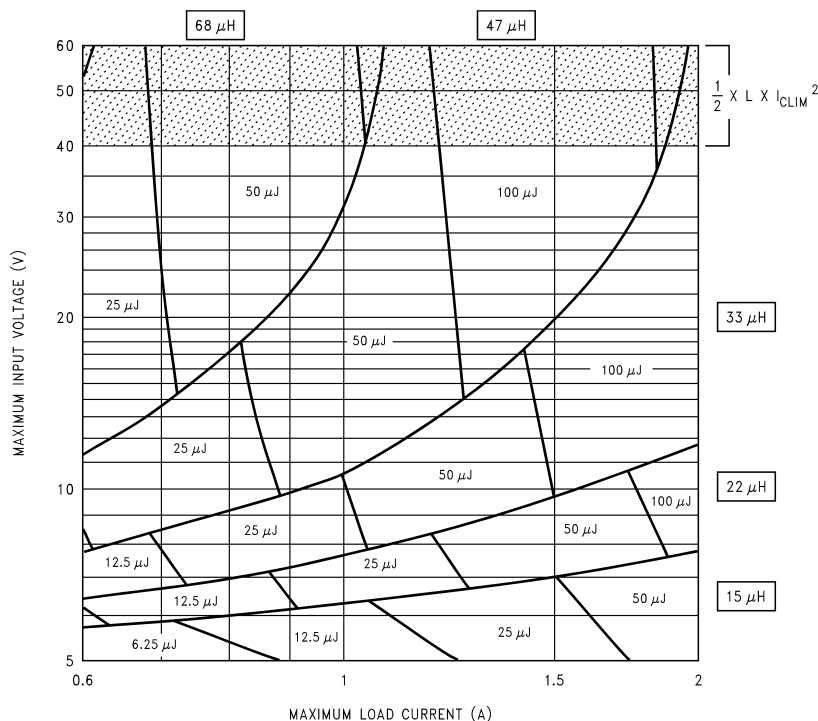
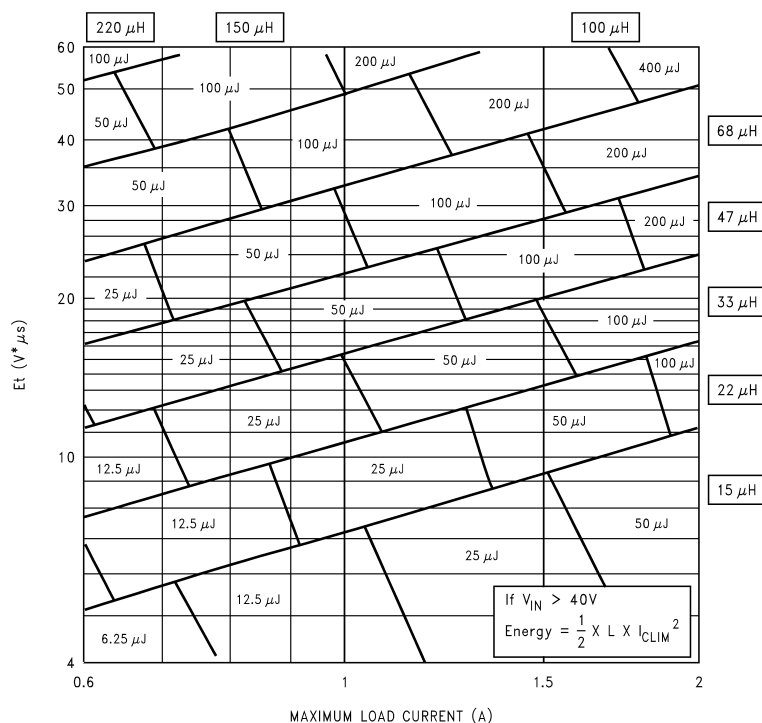

Figure 25. LM2592HV-3.3
Figure 27. LM2592HV-ADJ
Application Note AN-1197 titled "Selecting Inductors for Buck Converters" provides detailed information on this topic. For a quick-start the designer may refer to the nomographs provided in Figure 25 to Figure 27. To widen the choice of the Designer to a more general selection of available inductors, the nomographs provide the required inductance and also the energy in the core expressed in microjoules (μJ), as an alternative to just prescribing custom parts. The following points need to be highlighted:
5. Figure 27 shows the inductor selection curves for the Adjustable version. The y-axis is 'Et', in Vμsecs. It is the applied volts across the inductor during the ON time of the switch ($V_{IN} - V_{SAT} - V_{OUT}$) multiplied by the time for which the switch is on in μsecs. See Example 3.
1. Since input voltage is less than 40V, a first pass inductor selection is based upon Inductance and rated max load current. We choose an inductor with the Inductance value indicated by the nomograph Figure 27 and a current rating equal to the maximum load. But we first need to calculate Et for the given application. The Duty cycle is
Therefore, looking at Figure 25 we quick-select a 47μH/2A inductor (designed for 150 kHz operation) for this application.
2. We should confirm that it is rated to handle 200 μJ (see Figure 27) by the procedure shown in AN-1197 and that the losses are acceptable. (If the DC Input voltage had been greater than 40V we would need to consider e_{CLIM} as in Example 2).